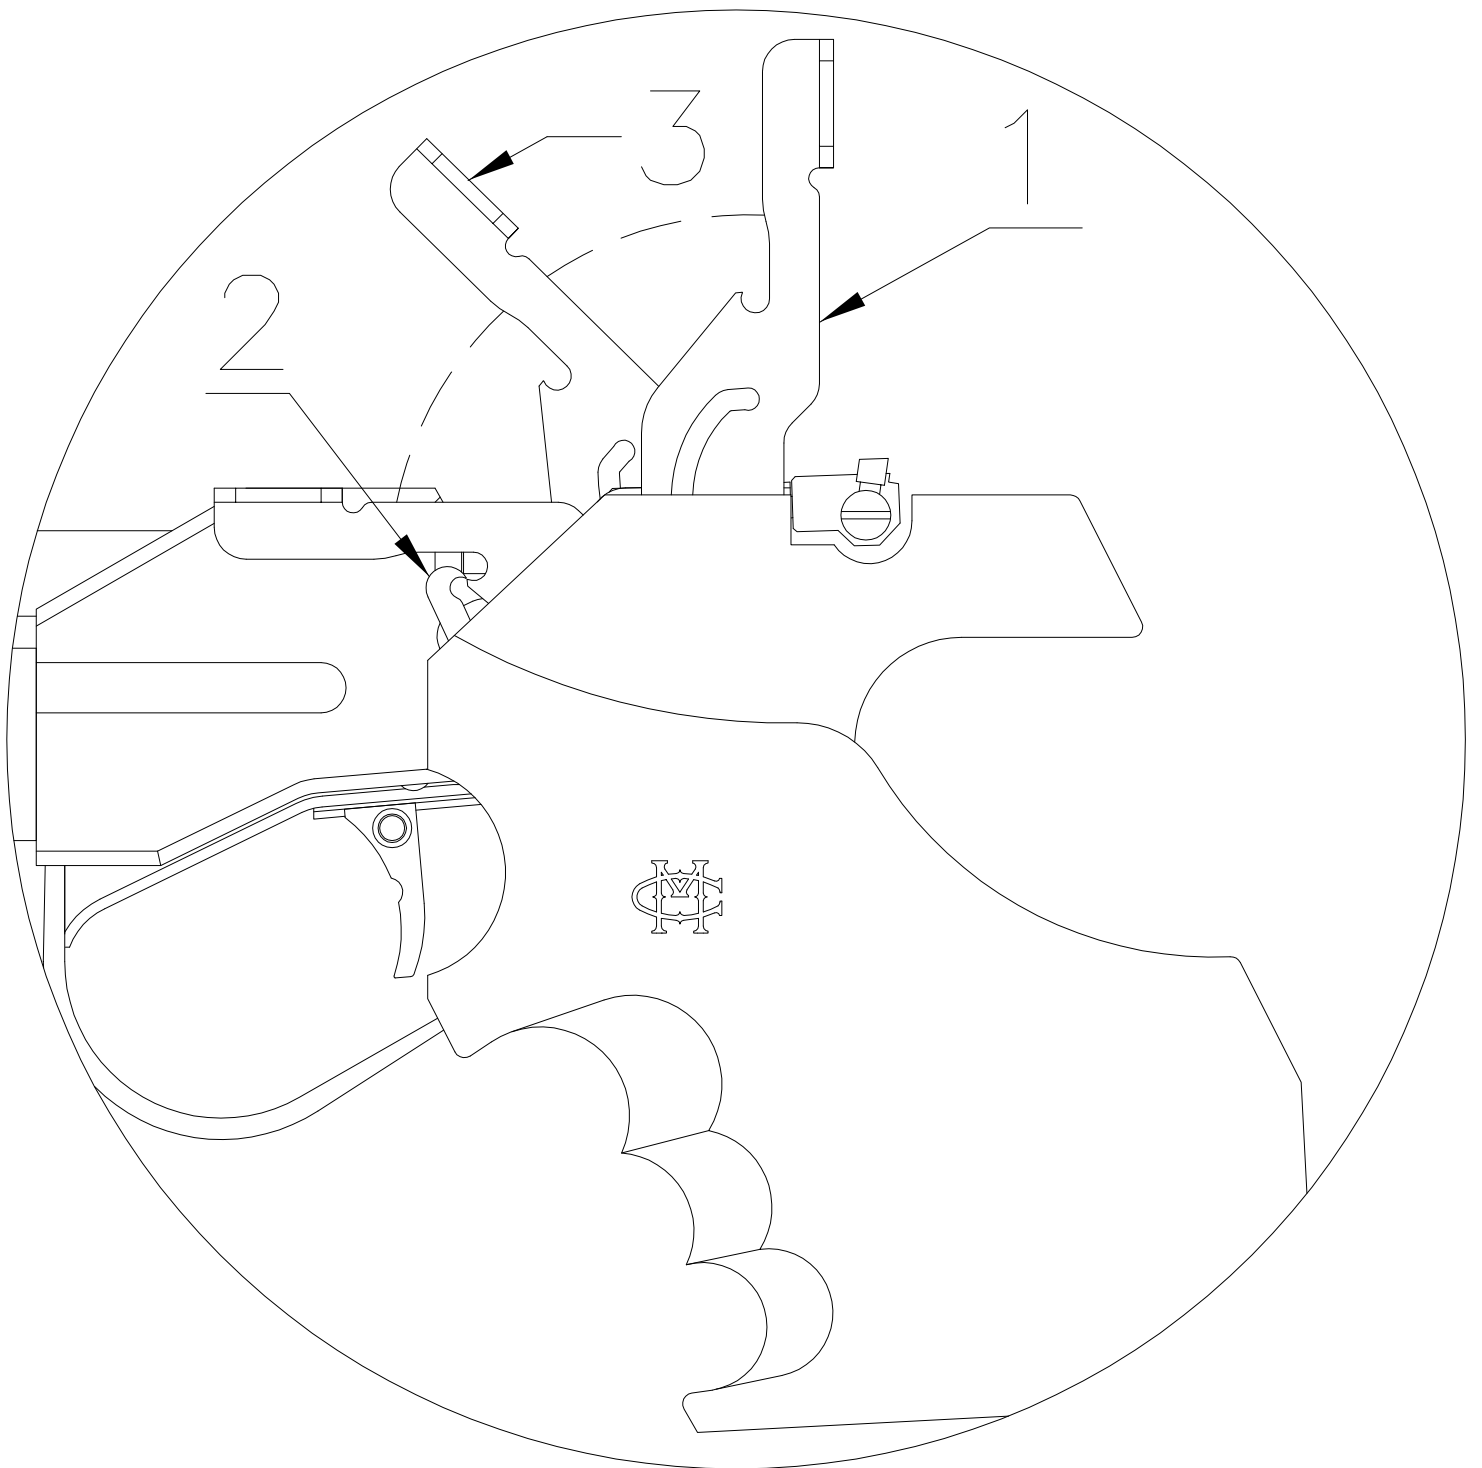

Fig. 3
2. Trigger adjustment (*Fig. 3*)